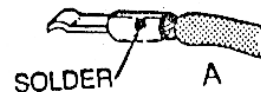

Figure 3
3. **Attach the metal contact.** Place the metal contact over the stripped end of the cable and make a solder joint (See Figure 3.)